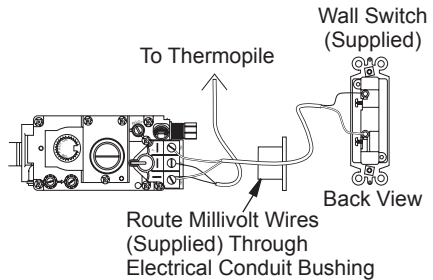

Figure 11 - Wall Switch Installation
2. Using the 18 ga. millivolt wire and wall switch (both supplied), connect wiring per wiring diagram (see Figure 11). For more detail, see *Wiring Diagrams* on page 16.